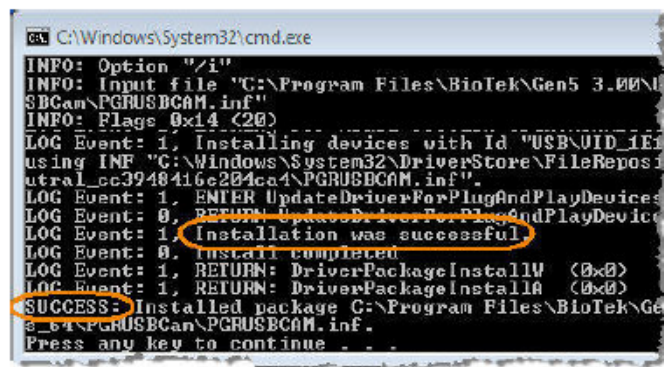
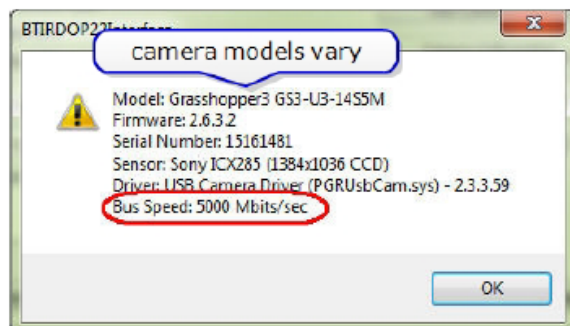

Figure 30. A message indicating that the installation was successful.
Figure 32. **Bus Speed** shown in the Camera Information mode.
- 5 A message will appear indicating the installation was successful (Figure 30).
- 5 Click the **Camera Information** button. If successful, camera information will be displayed as seen in **Figure 30**. Confirm the **Bus Speed** is **5,000 Mbits/sec** (**Figure 32**). If it is significantly lower than this, contact BioTek TAC (bio.tac@agilent.com) for troubleshooting.